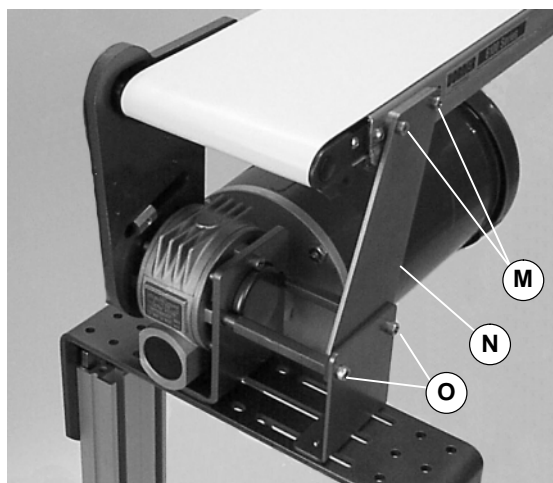

Figure 19
5. Loosen tail cover plate screws (D) on both sides at tensioning end.
6. Re-position tensioning end (B) of conveyor by pushing it back into conveyor frame using the heel of your hand. This loosens belt sufficiently for removal.
**NOTE:** For conveyor with a Heavy Load Bottom or Top Mount Package, bracket (N of Figure 19) must be removed.
- ▮ Remove two (2) M6 x 16 mm socket head screws (M).
- ▮ Remove two (2) M6 x 12 mm socket head screws (O).
- ▮ Remove bracket (N).